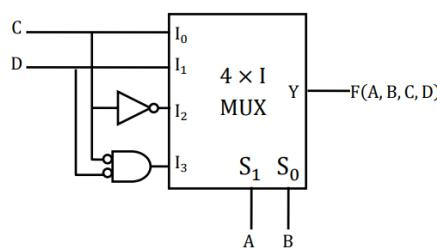

Fig. 4.23
48. Find the Boolean logic realised by the following circuit in Fig. 4.23.